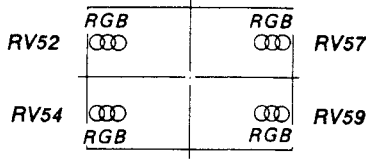

Fig. 1-26.
- Adjust RV52, RV54 and RV57, RV59 on the DC board to coincide with the R, G and B dots as shown in Fig. 1-26.